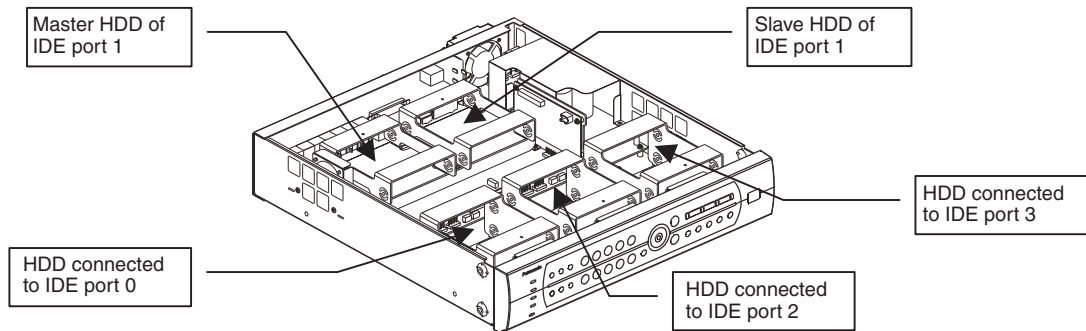

Fig. 3
- (1) When connecting two hard disks to IDE port 1, make the one on the left the Master and the one on the right the Slave, as seen from the front of the recorder. See Fig. 3.
- (2) When connecting three pairs of hard disks to IDE port 0, 2 and 3 (6 in total), make the top one the Master and the bottom one the Slave (see Figs. 3 and 5).